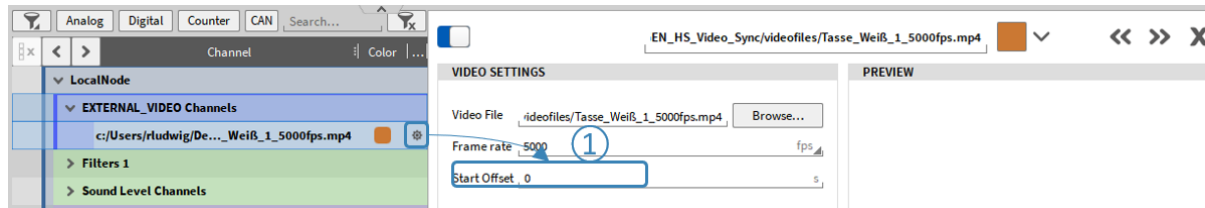

Fig. 7.164: Compensating a deterministic delay between video and sensor data
If the latency between video and sensor data is known it can be compensated by entering the delay in *Start Offset* in the video's channel setup (see ① in Fig. 7.164).